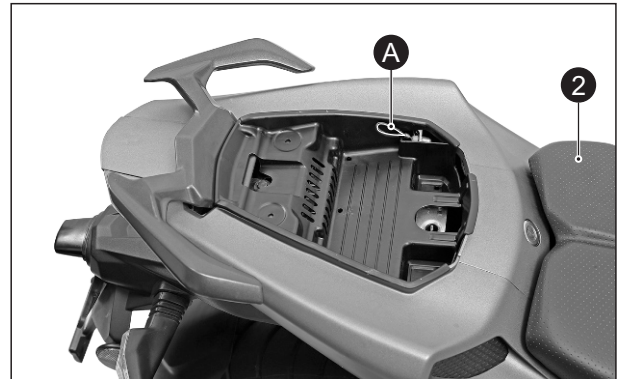

Fig. 6.151
- Pull the seat release cable (A) to release seat lock. Keeping the seat release cable pulled, lift the seat from rear end and slide it backward to remove. (Fig. 6.151)